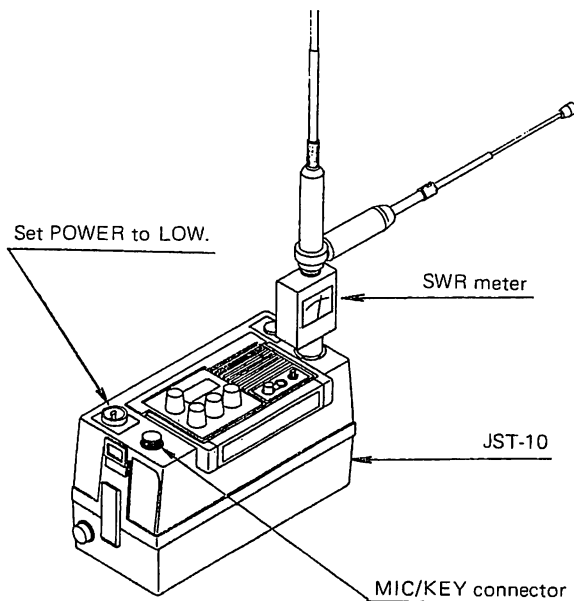

Figure 3.2.5 Adjustment with SWR Meter
- (1) As shown in Figure 3.2.5, directly connect the SWR meter between the transceiver's antenna connector and whip antenna.
- (2) Set the transceiver to the CW mode. If you has the key, CCK-410, plug the key to the MIC/KEY connector. Unless the key is available, insert a thin copper wire of 2 to 3cm long, about 0.8mm in diameter, into holes of Pins No.